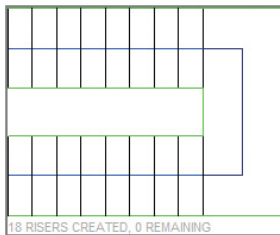

FIGURE 4.17 Creating the stair run
2. Creating a multistory stair works the same for each of the stair tools. Select one of the tools, and create a U-shaped stair. Select a start point for the stair, and mouse to the right. Click to select the top of this run. Now, move the mouse down, and create a run from right to left, parallel to the first run (Figure 4.17).